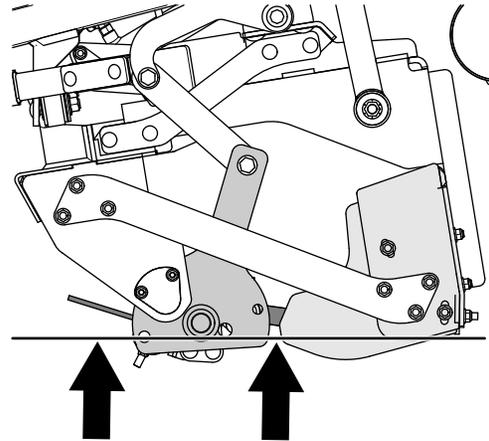

Figure 50
4. Tilt the multi-tool carrier backward (Figure 50) until the tines are aligned higher than the bottom of the grader blade; refer to Tilting the Mid-Mount Attachment Forward \(page 29\).